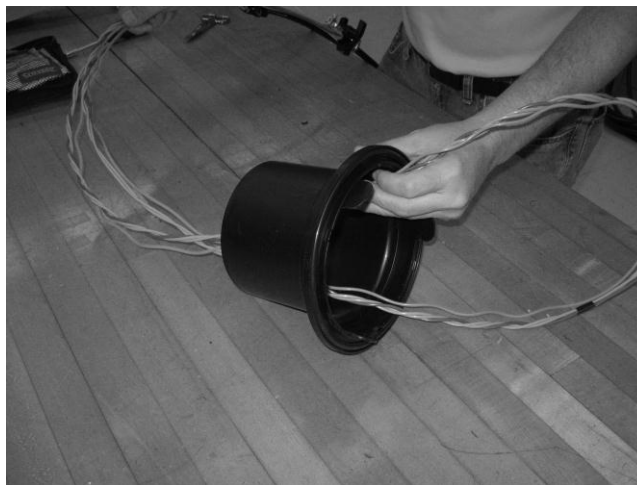

Figure 21 – Use caution when installing the closure base over the express buffer tubes.
- 5.9 **Install Cable Retention Hardware:** The cable retention hardware is installed as described in Sections 4.6 – 4.11. However, note that in Step 4.10, the closure base must be installed over the express buffer tubes as shown in Figure 21. Use caution to avoid kinking the buffer tubes when sliding the closure base (small end first) over the tubes and onto the cables.